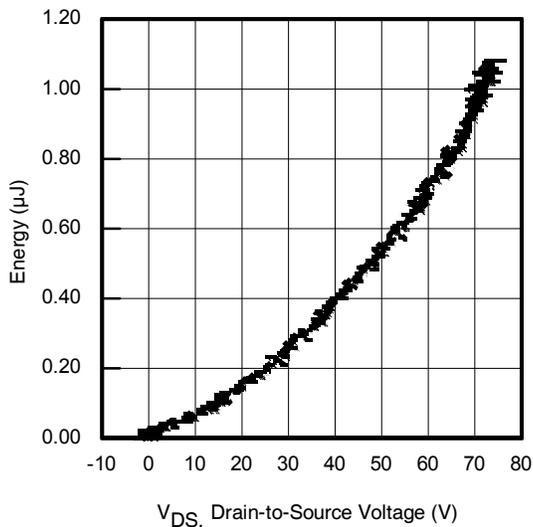

Fig. 11 Typical Coss Stored Energy
- ① Calculated continuous current based on maximum allowable junction temperature. Bond wire current limit is 56A. Note that current limitations arising from heating of the device leads may occur with some lead mounting arrangements.
- ② Repetitive rating; pulse width limited by max. junction temperature. (See fig. 11)
- ③ Limited by T_{Jmax}, starting T_J = 25°C, L = 0.12mH, R_G = 25Ω, I_{AS} = 46A, V_{GS} = 10V. Part not recommended for use above this value.
- ④ I_{SD} ≤ 46A, di/dt ≤ 1920A/μs, V_{DD} ≤ V_{(BR)DSS}, T_J ≤ 175°C.
- ⑤ Pulse width ≤ 400μs; duty cycle ≤ 2%.
- ⑥ C_{oss eff. (TR)} is a fixed capacitance that gives the same charging time as C_{oss} while V_{DS} is rising from 0 to 80% V_{DSS}.
- ⑦ C_{oss eff. (ER)} is a fixed capacitance that gives the same energy as C_{oss} while V_{DS} is rising from 0 to 80% V_{DSS}.
- ⑧ When mounted on 1" square PCB (FR-4 or G-10 Material). For recommended footprint and soldering techniques refer to application note #AN-994
- ⑨ R_θ is measured at T_J approximately 90°C.